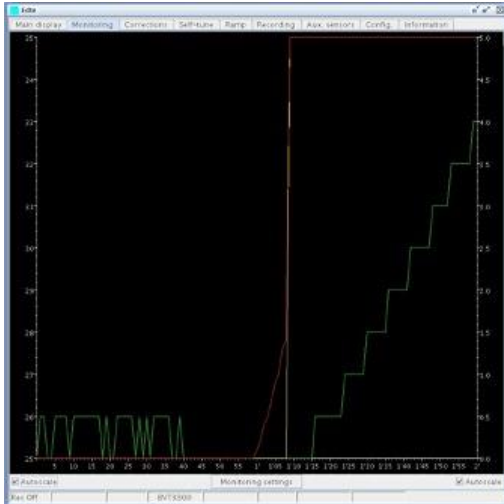
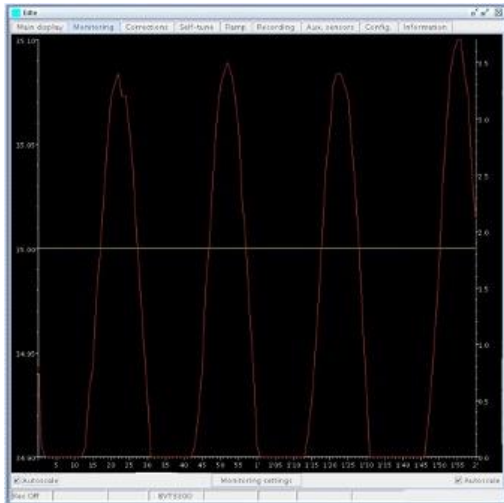

Figure 4. Monitoring the response to an increase in temperature.
Figure 5. The temperature has reached equilibrium.
7. Click the change button to the right of the target temperature. Enter 35° C. Click on the monitoring tab to observe the sample temperature (green), the target temperature (yellow) and the heater output (red) as a function of time (Fig. 4). It will take ~ 5 minutes for the system to equilibrate (Fig. 5).